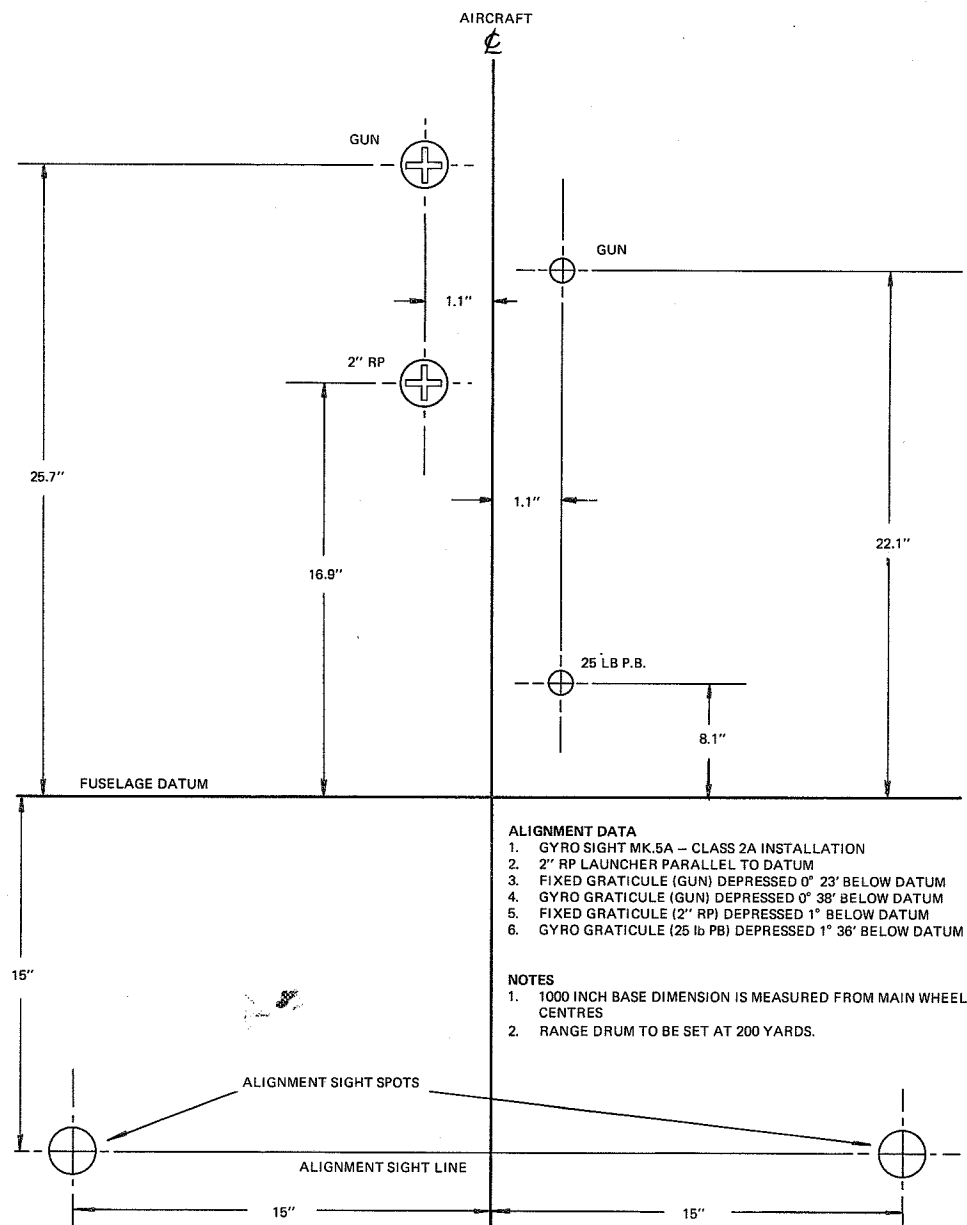

Fig. 1 Gun sight alignment diagram
- (1) Set up the alignment stand or diagram as shown in fig.1.
- (2) Remove the gun/bomb pack and the outer gun blast tube panels and blanking plates.
- (3) Fit the alignment sight bars across the gun pack compartment and secure them to the gun pack securing spigots, using the pip pins provided.
- (4) Position the aircraft with the centres of the main wheels on a base line which is parallel to the alignment diagram and at a distance of 1000 inches from it. Chock the main wheels.
- (5) Jack the aircraft in accordance with the jacking and trestling instructions. (Sect.2, Chap.4).
- (6) Sight through the alignment sight bars and adjust the alignment diagram and/or aircraft until the sights are aligned with their respective spots on the diagram. This will ensure that the datum line and centre line of the diagram are coincident with the datum line and centre line of the aircraft.